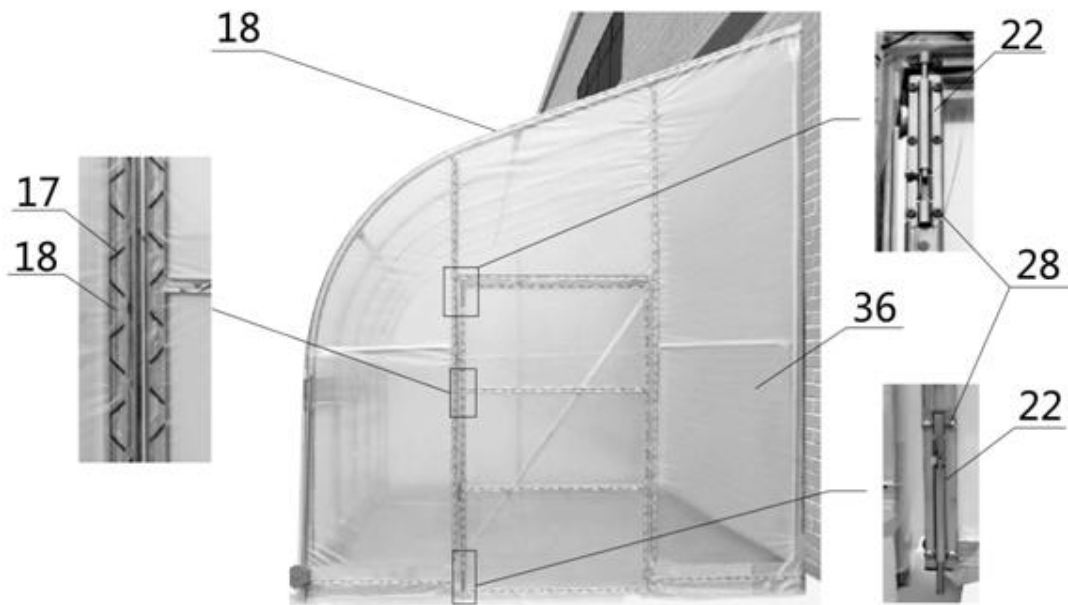

Figure 9
- The clapping groove (#18) distribution of the front door and slide bolt lock (#22) installation are as follows (refer to figure 9). After front and rear door film is covered, the excess parts can be trimmed off.
- (14) Clip spring (#17)